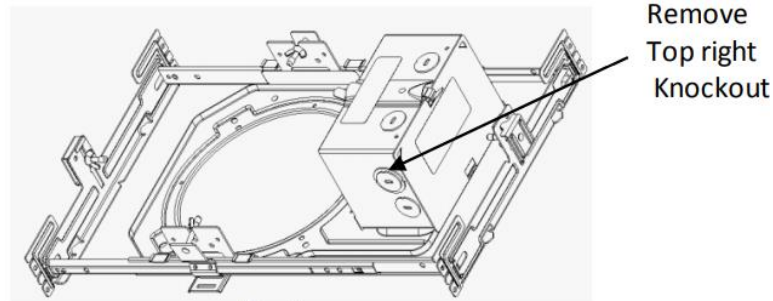
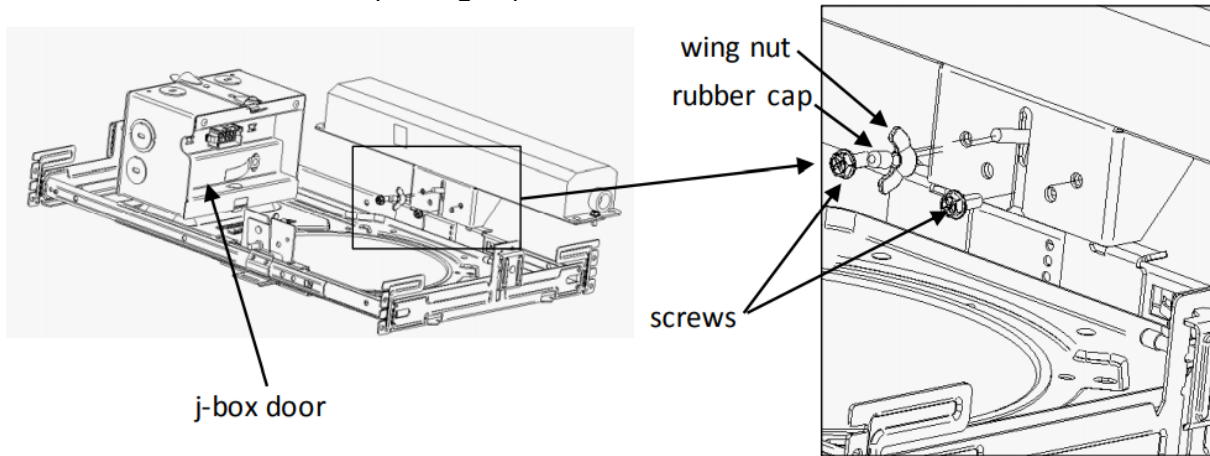
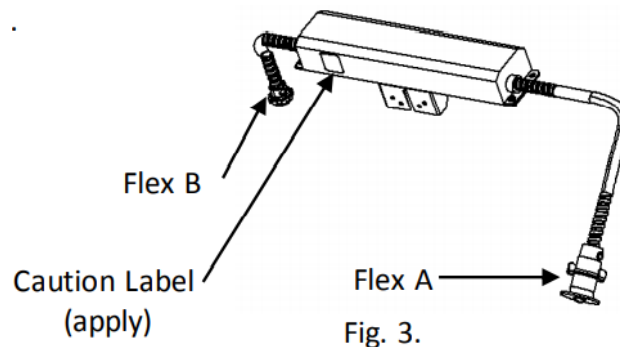

Fig. 1.
Fig. 2.
Fig. 3.
**Step one:** Once frame is removed from carton, remove top knockout on right side of the junction box. This will be the connection point for the EM pack conduit (See Fig. 1). Frame-in-kit instruction sheet must be saved and consulted for frame installation.
**Step two:** Remove wing nut and rubber cap from frames right side bracket and attach EM pack mounting bracket to frame side bracket, secure 2 screws provided in location shown, and secure wing nut and rubber cap back on threaded PEM stud. (See Fig. 2.)
**Step three:** Remove j-box door (see Fig. 2) and connect Flex B (see Fig. 3) to the removed knockout on the frame junction box (see Fig. 1.), and pull wires through. Secure the conduit using the nut attached to the conduit connector, by inserting wires through middle and thread nut on end of Flex B connector, securing j-box between.
**Step four:** Apply the enclosed CAUTION label to the side face of the battery pack (see Fig. 3) so that it may be visible during wiring.